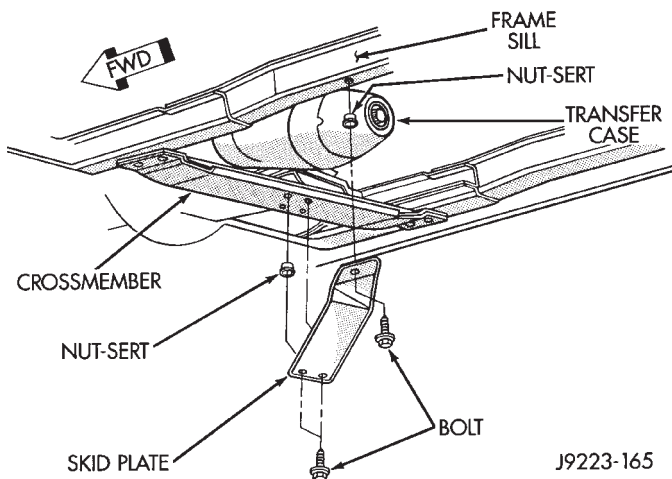

Fig. 4 Transfer Case Skid Plate
- (1) Support the skid plate.
- (2) Remove the bolts that attach the skid plate to the transmission support crossmember and frame sill (Fig. 4).
- (1) Position and support the skid plate at the frame sill and transmission support crossmember (Fig. 4).
- (2) Attach the skid plate to the frame sill and crossmember with bolts. Tighten bolts to 22 N·m (16 ft. lbs.) torque.